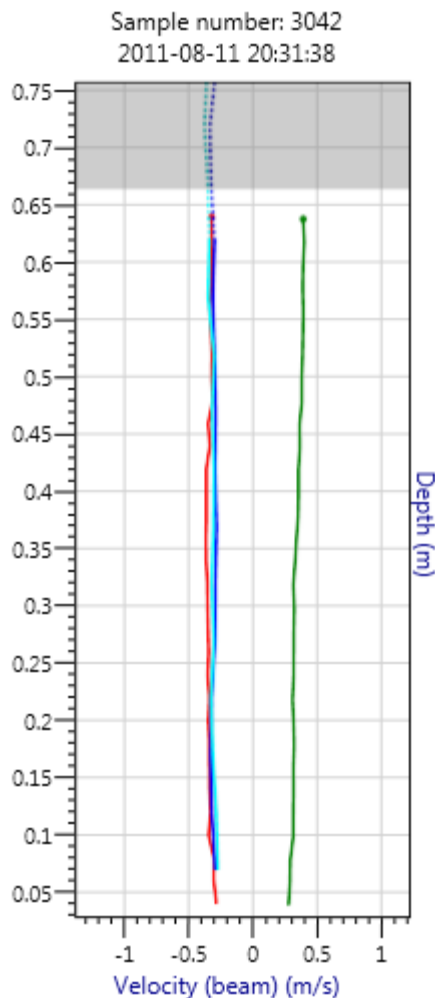

Figure 93. Profile Chart
- Figure 93 presents velocity profile data.